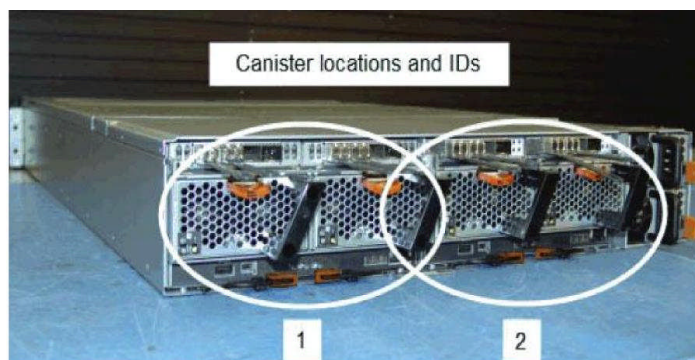

Figure 1. FlashSystem 840 rear view of canisters with canister IDs identified
1. To determine which canister to replace, look at the back of the FlashSystem 840. Canister 1 is on the left, as seen from the rear. Canister 2 is on the right. See Figure 1 below.
If the upgrade takes more than two hours to complete, it may have stalled. Upgrade status is viewed by issuing `lssoftwareupgradestatus` CLI command. In most cases, this can be resolved by aborting the upgrade and reattempting the upgrade after the system downgrades to its original level. To abort the upgrade, issue the `applysoftware -abort` CLI command or click the “Stop Upgrade” button in the GUI, as seen in Figure 1 below.